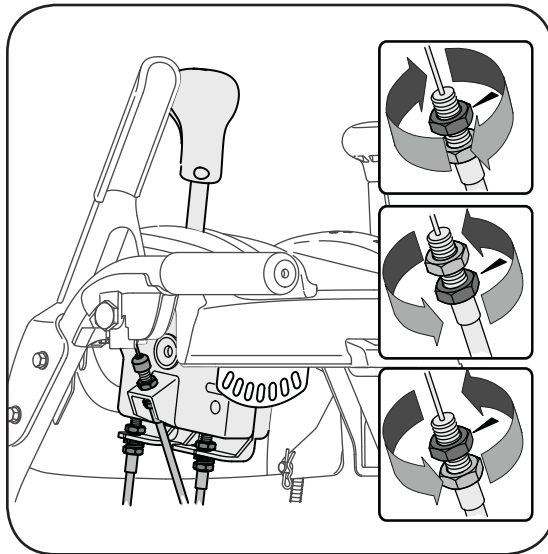

Figure 5-2
2. Adjust equally on both sides by working on both cables. See Figure 5-2.